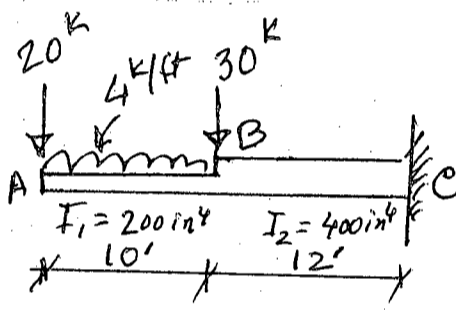

Fig. 9
10. Compute vertical deflection and change in slope at 'A' of the beam shown in Fig. 9. Given:  $I_1 = 200 \text{ in}^4$  (AB),  $I_2 = 400 \text{ in}^4$  (BC) and  $E = 30,000 \text{ ksi}$ . (28)